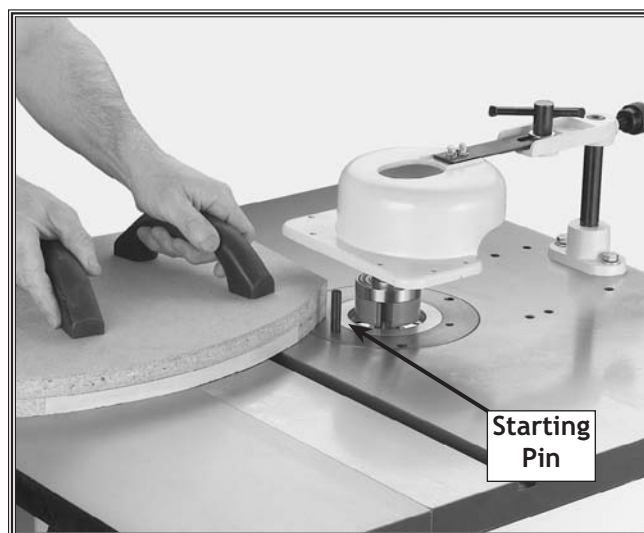

Figure 51. Hold-down jig used to support workpiece
6. Use a supplemental hold-down jig like the **SHOP FOX® W1500 Right Angle Jig** as shown in **Figure 51**, or you can use rubberized-handle push blocks to support or guide the workpiece and protect your hands.